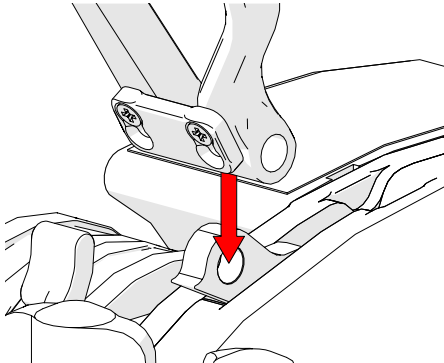

Fig. 100 - Align shackle with tether holes
3. Slide the shackle around the tether attachment point (Fig. 100).